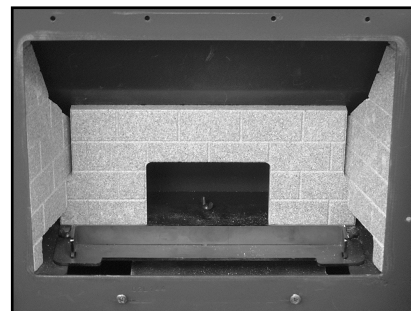

Fig. 3e Liner panels assembled in the fire.
5. Centre the assembly. Line up each end of the rear lining with the edges of the fixed matrix plate. (See Fig. 3e)